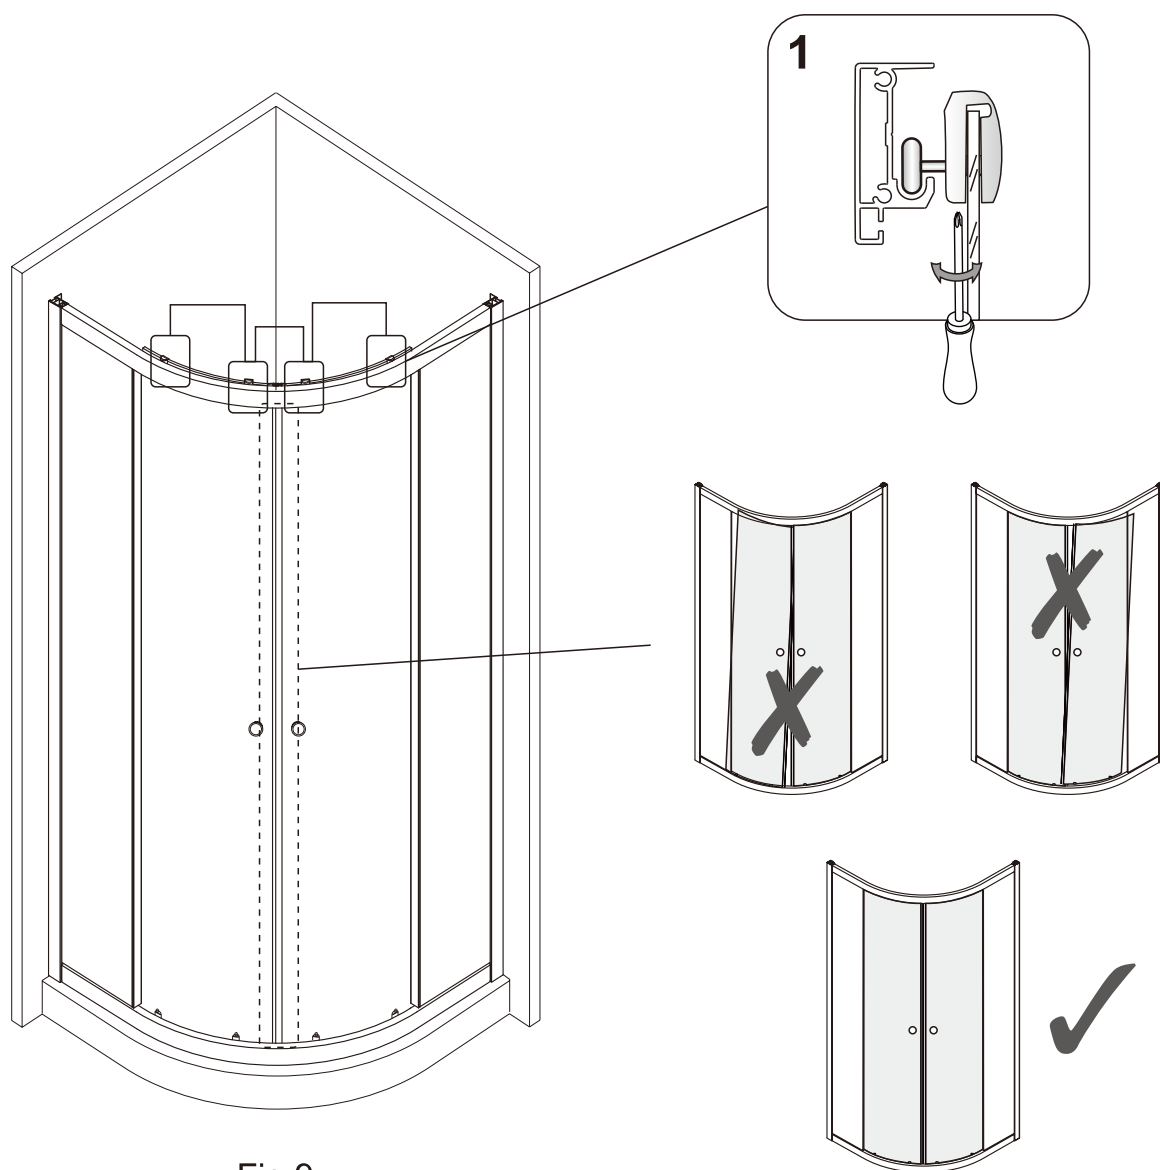

Fig 9
1. Close the door so that the **Magnetic Seals [03]** can attach from top to bottom. Adjust the position of **Door Panels [06]** by following the instruction of next step if there is gap between the **Magnetic seals [03]**. (Fig 9)